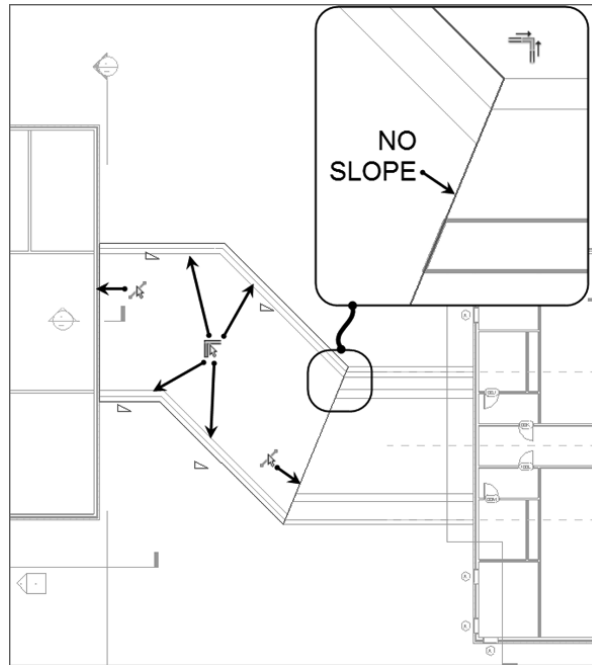

FIGURE 7.29: The new outline of the second roof
8. On your own, sketch the roof shown in Figure 7.29. Make sure the lines along the walls are defining a slope. The lines that represent the ends of the roof don't slope.
10. Review Figure 7.29 to see whether your sketch matches. You should have six lines total, and the right and the left ends should not have a slope.